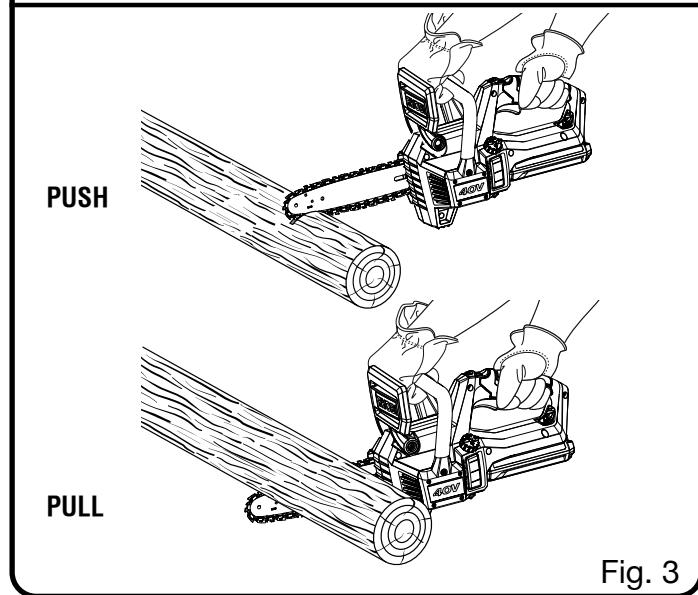

Fig. 3
- Push and Pull – This reaction force is always opposite to the direction the chain is moving where wood contact is made. Thus, the operator must be ready to control the PULL when cutting on the bottom edge of the bar, and PUSH when cutting along the top edge. See *Figure 3*.